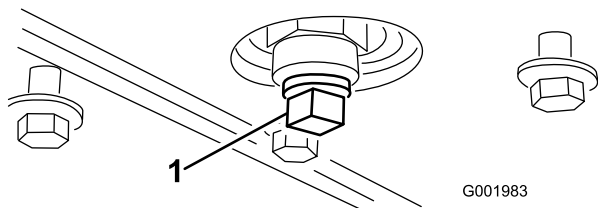

Figure 48
5. Remove the drain plug (Figure 48).